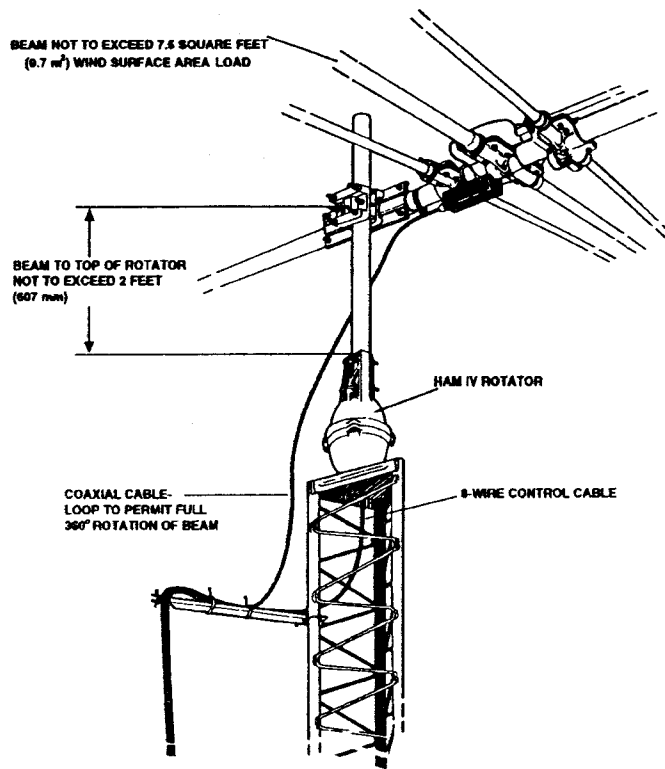
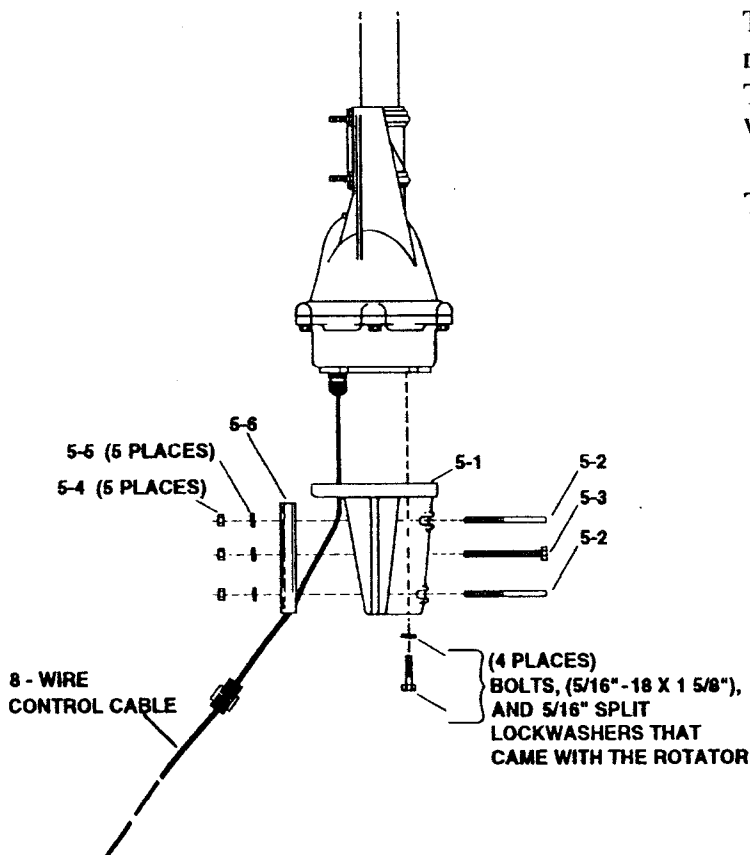

Figure 5
Figure 7
B. Outside Tower or Mast Mounted as per Figure 5 or 6	7.5 square feet (.7 m ²) of wind surface area
*Maximum Effective Moment (EM)	2,800 ft. lb. (387 Kg. m)
- When not mounted within a tower with a thrust bearing, as shown in Figures 5 and 6, the rotator must be DERATED.
2. An "outside" Tower Mount (see Figure 5) is optional. The rotator is not well protected but the installation is simpler. With an "Outside" Tower Mount, the rotator must be derated to 7.5 square feet.
Referring to Figures 5, 6, and 7, an outside tower or pole mount is made in the same manner except that the rotator is fastened by four (4) bolts only (not six) to the Lower Mast Support, PN 5146710. Since the eccentricity of the rotator turning in reference to the tower is no longer important, the shimming procedure is not necessary. The four (4) bolts must be torqued to the same specification and the 8-wire cable securely fastened. The lower mast should be pinned with the 5/16"-18 x 4" bolt as shown in Figure 7.